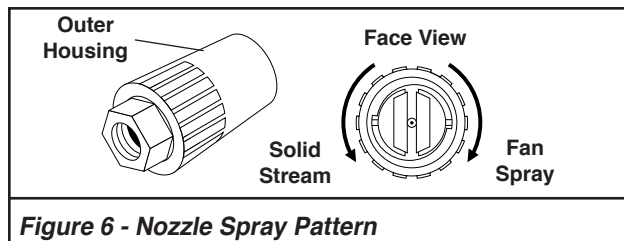

Figure 6 - Nozzle Spray Pattern
5. Select the width of your nozzle spray pattern by turning the black knob on the nozzle. See **Figure 6**. Pattern can be from 0 degrees through 80 degrees fan spray. Release the trigger of the trigger gun prior to making any spray pattern adjustments.